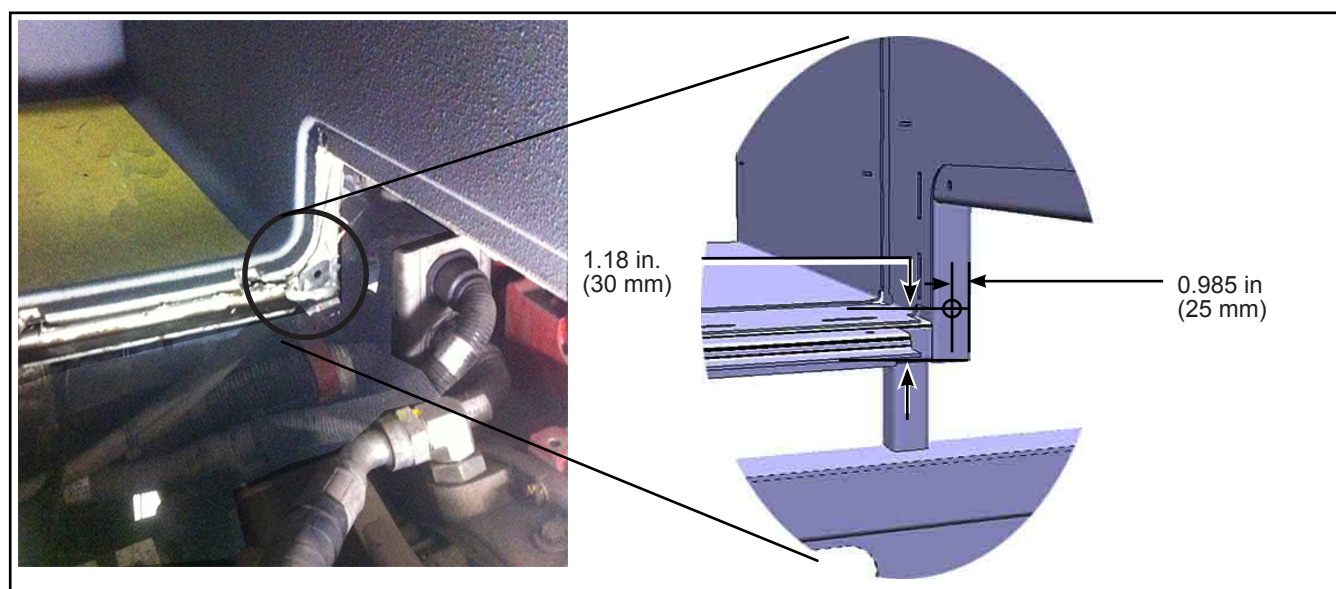

Figure 13 - Drilling for the Installation of P-clamp
- 1.23. Drill a 0.350 in. (9 mm) diameter hole at the location specified in Figure 13. This operation is performed through the transmission access panel located at the rear interior of the vehicle.